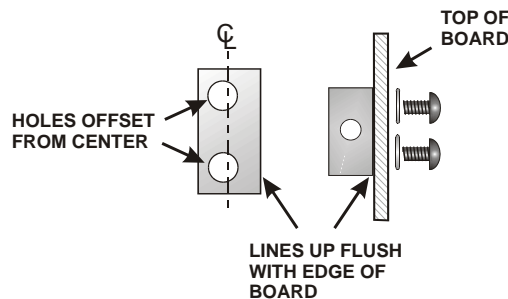

Figure 31. 2-D Fasteners.
□ Install four 2-D fasteners on the corners of the RF PCB. The 2-D fasteners go on the bottom of the PCB. Line up the offset holes of each 2-D fastener so the side of the connector is flush with the edge of the PCB (see Figure 31). Secure each connector to the PCB with two black 3/16" (4.8 mm) pan head screws and *split* lock washers.